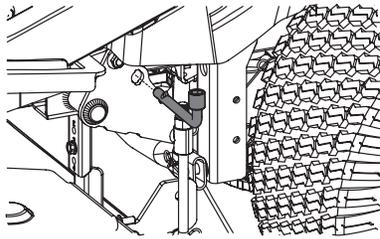

Figure 48
- Use the deck lift pedal and deck lift knob to place the deck in the lowest position and use the multi-tool to lock the deck lift components in place. There are a pair of alignment holes by the rear wheel on the left side of the tractor (one on the frame and one on the deck lift arm) as shown in Figure 48. Ensure tool is fully inserted properly, locking the deck lift arm in place to the frame.